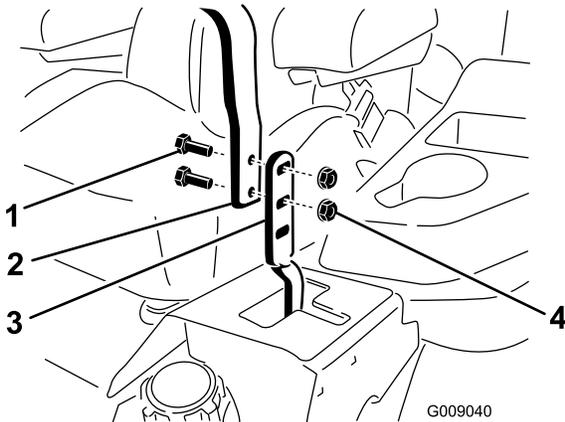

Figure 98
3. Loosen the bolts and flange nuts installed in the levers (Figure 98).